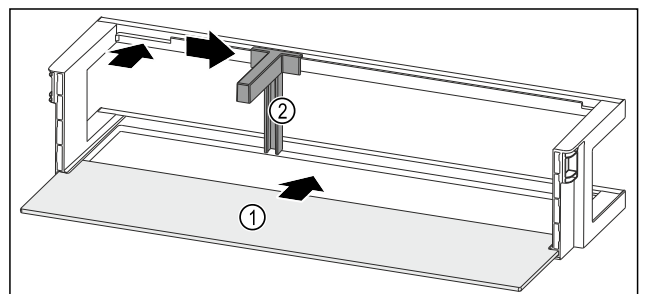

Fig. 114 Door rack with shelf
- Push the shelf Fig. 114 (1) into the side recesses.
- Insert the bottle holder Fig. 114 (2) in the recess.
- Push the bottle holder Fig. 114 (2) to the desired position to the side.